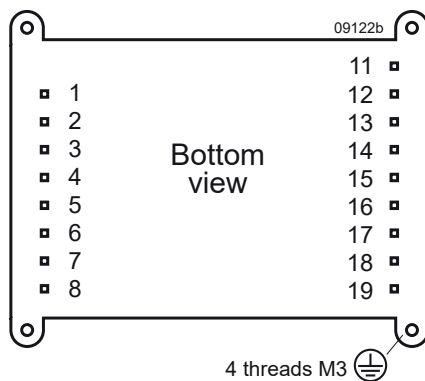

Fig. 15
- Reinforced insulation input to output for 110IMY70 models, basic insulation to the case, based on the input voltage of 150 V. The case can be reliably connected to PE (protective earth) – except option Z; see fig. 15 and 16.